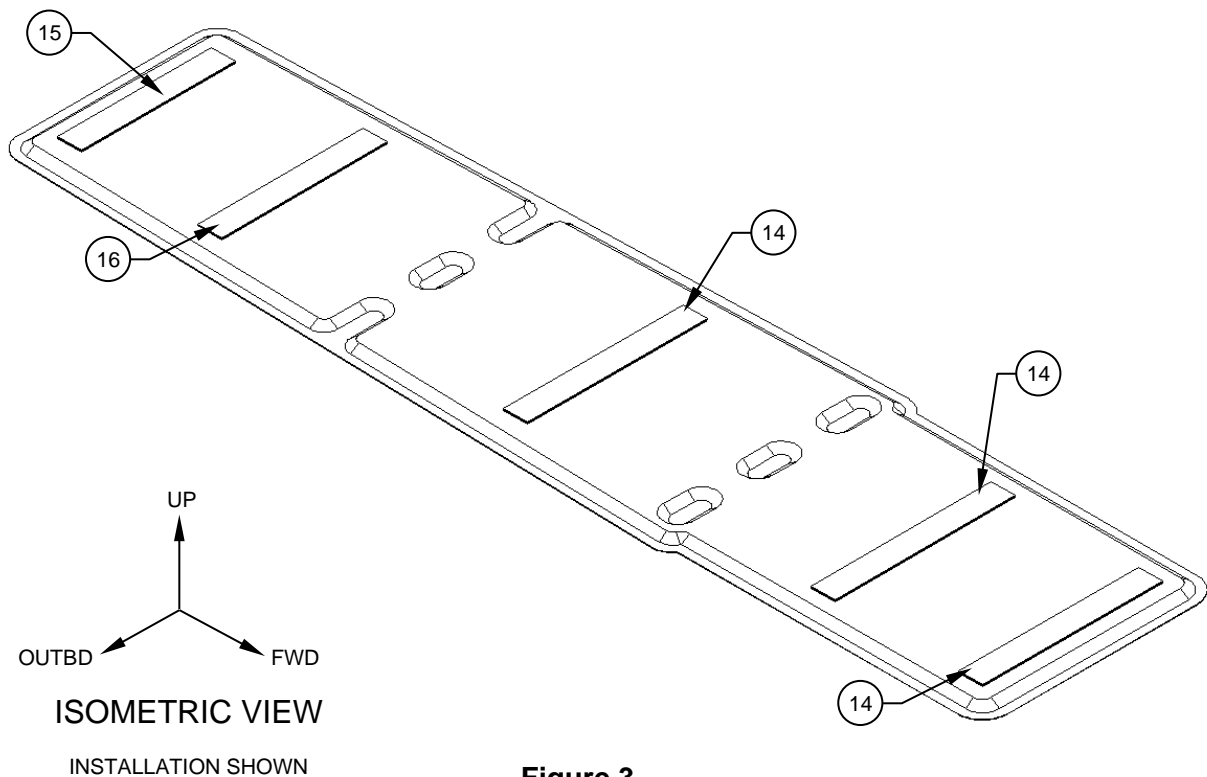

**Figure 2**
2. With the panel lined up use the pre-cut .25 holes and a felt pen to mark out the locations for the Velcro®, Details (Items 15, 16 & 17) and remove the panel (Item 1). Reference Figure 2.